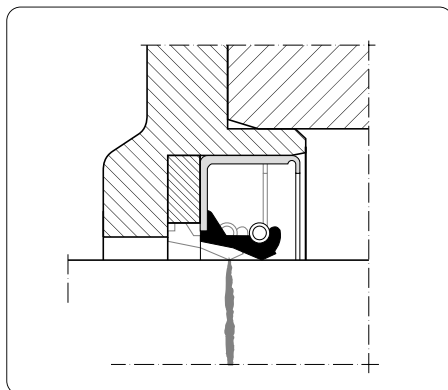

Fig 67
- mount a spacer ring in the housing bore between the housing shoulder and the seal (**fig 67**),